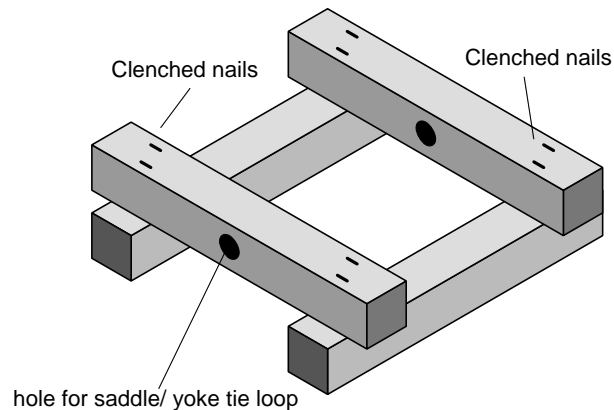
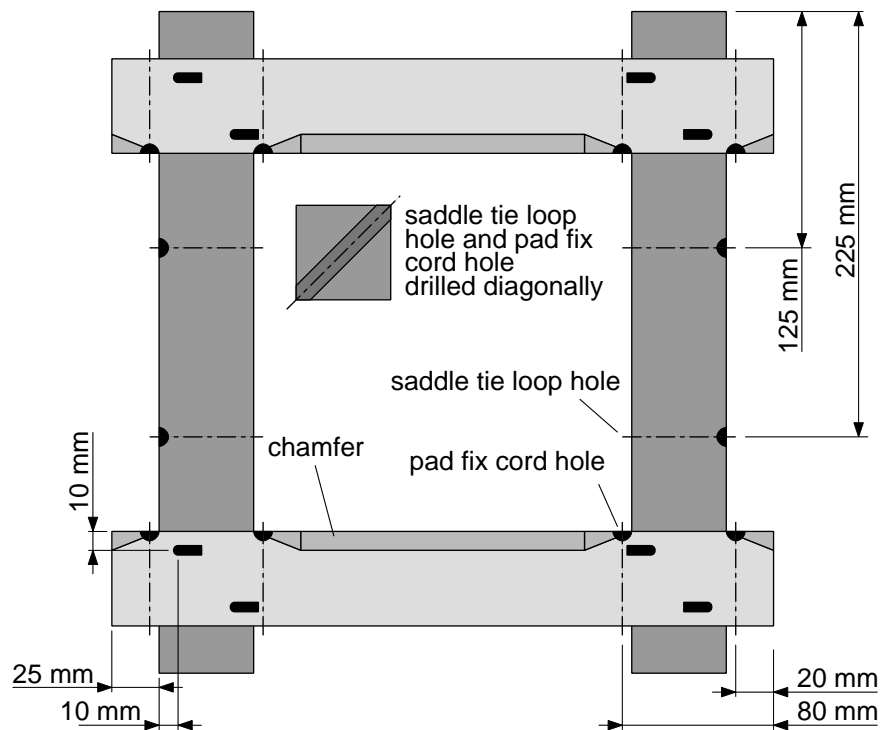
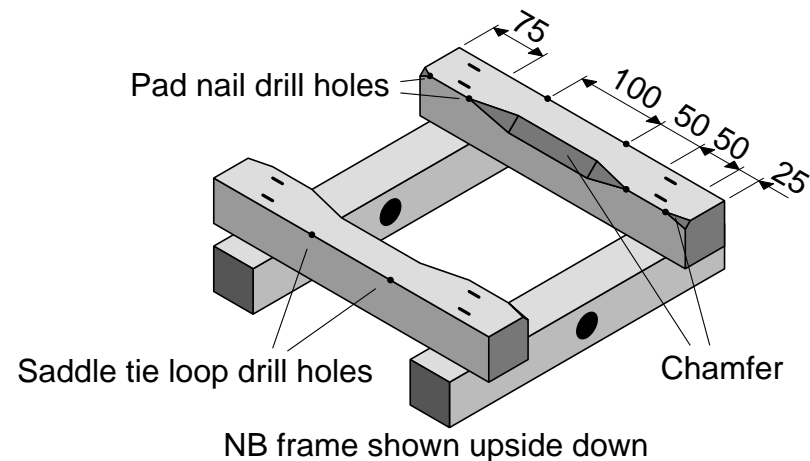

Figure 5: clench nailed frame.
Figure 7: frame joint clench nail layout and pad fix holes.
Figure 8: chamfered inside of frame.
- 2) Make up the frame as shown in Figure 5. Each of the four corner joints is made by clench nailing with pieces of R5 or R6 (5 or 6 mm diameter round steel bar or rod often used for concrete reinforcement) through holes drilled in the wood (to make sure the wood does not split). Figure 7 shows the hole positions.
- 4) Drill holes for the saddle tie loop on each side of the saddle frame in the positions shown in Figure 7. Hammer in the loops and clench the ends over so that the frame looks as shown in Figure 8. As before the drilled holes should be a little smaller than the round bar.
- 5) Chamfer the inside of the frame as shown in Figure 7 and Figure 8.
- 8) Now drill the holes required to accommodate the load pad fixing cord in the saddle frame. These holes should be 20 mm and 80 mm from the ends of the timber frame as shown in Figure 7.